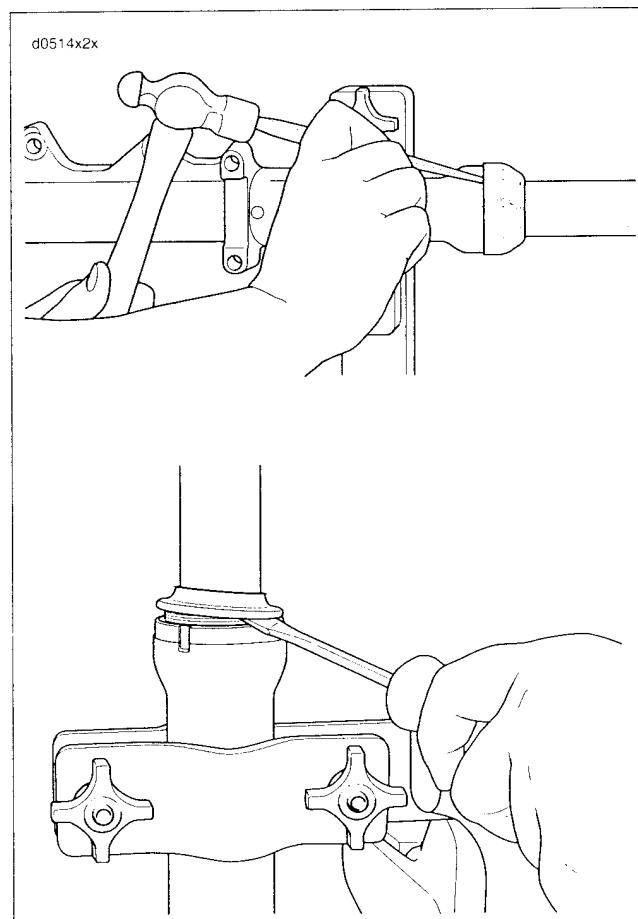

Figure 2-93. Fork Cover and Seal
11. See Figure 2-93. Remove the cover from the slider. Remove seal and stopper ring.